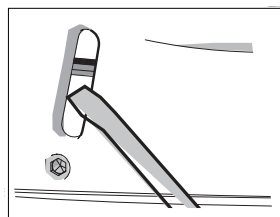

Figure 1
1. Loosen the bolt and remove the cover window (Figures 1 & 2).